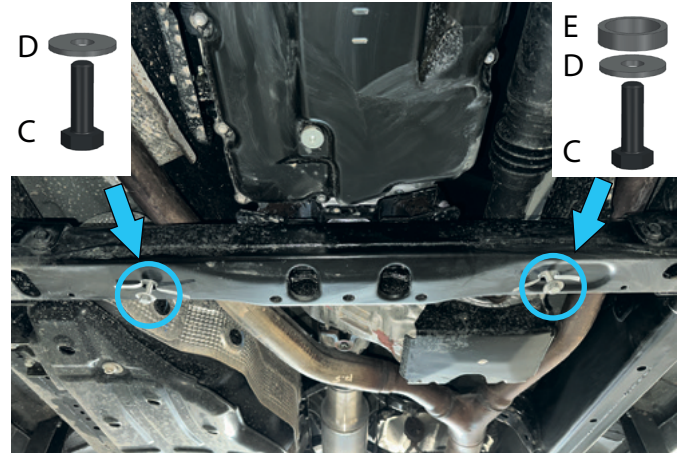

Fig. 2
2. Insert bolts M8x25 (item C) with washers 8 (item D) and spacer (item E) for 2-3 turns as shown in fig.2.